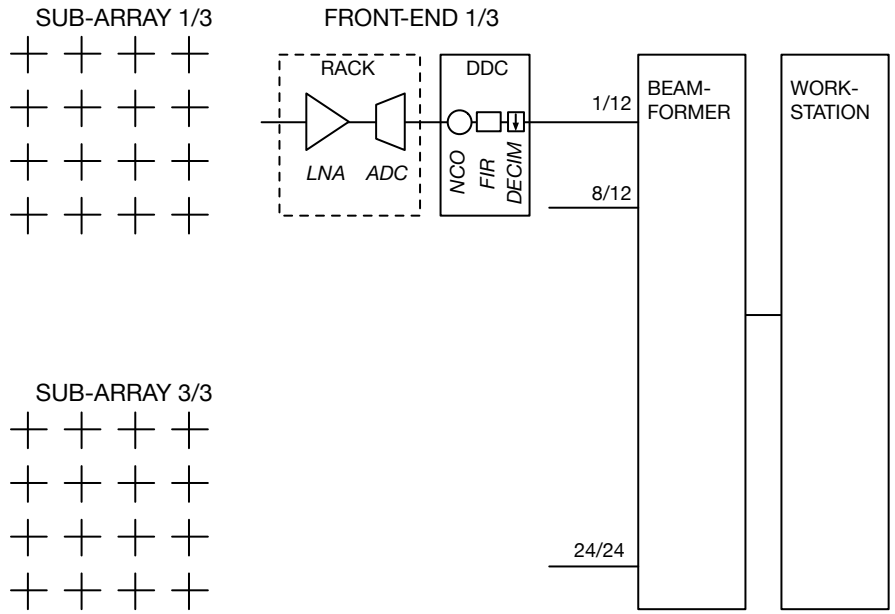

Figure 1. EROS view of the demonstrator array.
Figure 1 shows the demonstrator arrow as perceived by the user-level control and monitoring software (EROS). The antenna array consists of three sub-arrays, SbA 1-3. Each sub-array provides eight signals to the receiver front-end block FE 1-3. In a front-end block, each signal line is subjected to signal-level attenuator (A), low-noise amplifier (LNA) and A/D converters, followed by a digital downconverter (DDC). The digital downconverter comprises of two parts: a numerically control oscillator (NCO) and a cascade of filters and decimators (FIR). After manipulations in the front-end, the signals from the sub-arrays are send over (non-programmable) communication link to a beam-former block (BF), and after that, to a general-purpose workstation for further processing and storage. EROS provides basic primitives to setup and start and stop these various sub-blocks, as well as limited means of showing status information. In most cases, the setup only means uploading a file (or rather, data based on a file) to the block. Here we follow the established practice of EROS design that the contents of those files is somewhat external to EROS, in the sense that the contents of the files are generated by external programs, but the EROS uploading routines are able, to smaller or larger degree, check the validity of the file contents before uploading.